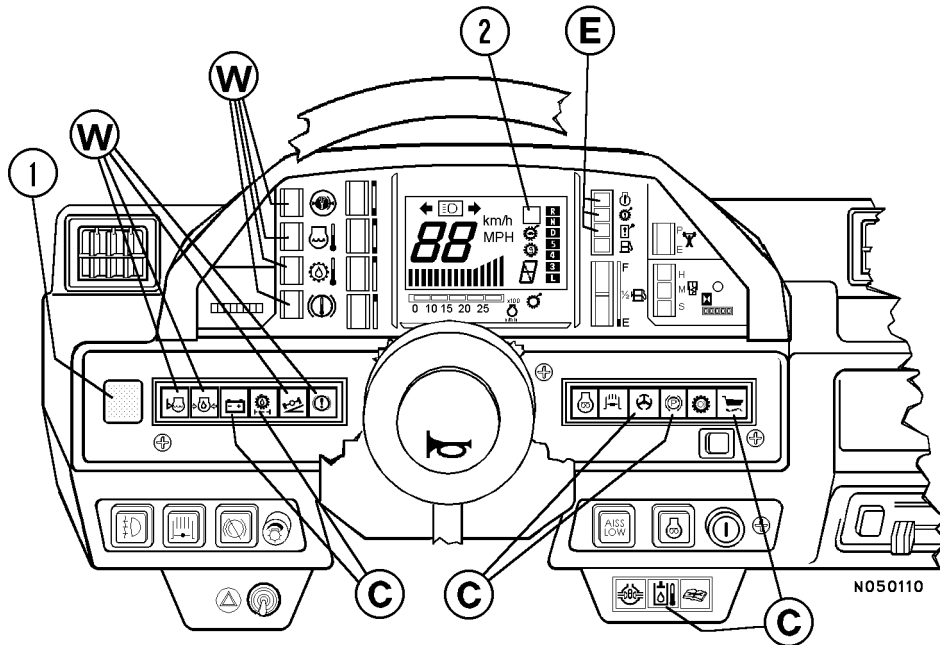

FIGURE 3-5. WARNING AND CAUTION LAMPS
1. The **Central Warning Lamp** is a Red lamp that will FLASH whenever any of the Monitor Lamps ("W", or "C", Figure 3-5) are illuminated, or if the Parking Brake is applied and the Transmission Shift Lever is not in the "N", (NEUTRAL) position.